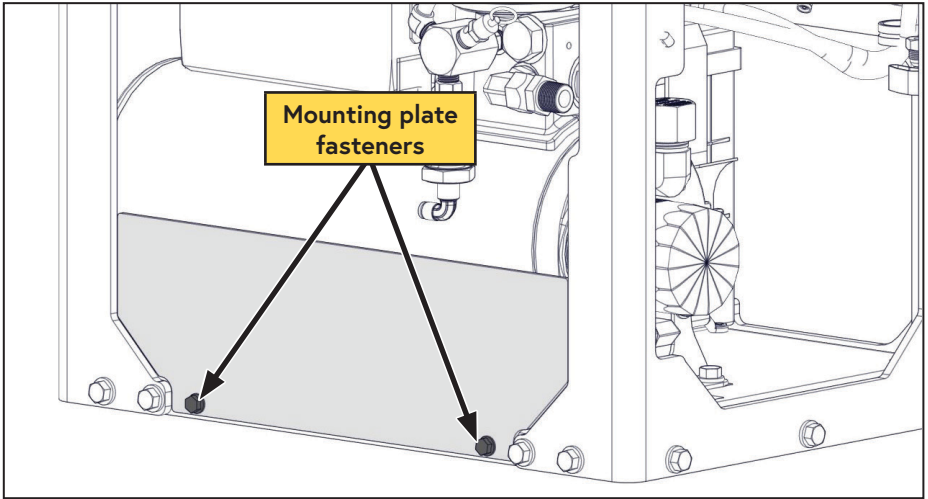

Figure 73 — Remove instruction plate
- Remove the plate with the instruction decal (Figure 73).